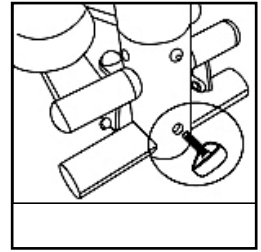
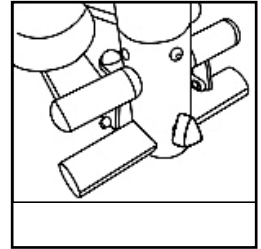

Figure 2
Figure 3
2. Locate the threaded hole on the opposite side on the stepper (Figure 2).
3. Twist the tension key slowly into the threaded hole on the backside of the main frame (2).
4. One side of the stepper will be automatically lifted up as the tension key is screwed into the main frame (3). As the tension key is fastened into the main frame, the amount of force required to screw the key in increases (Figure 3). *Hint: Lift up one of the stepper pedals manually before inserting the tension key.*